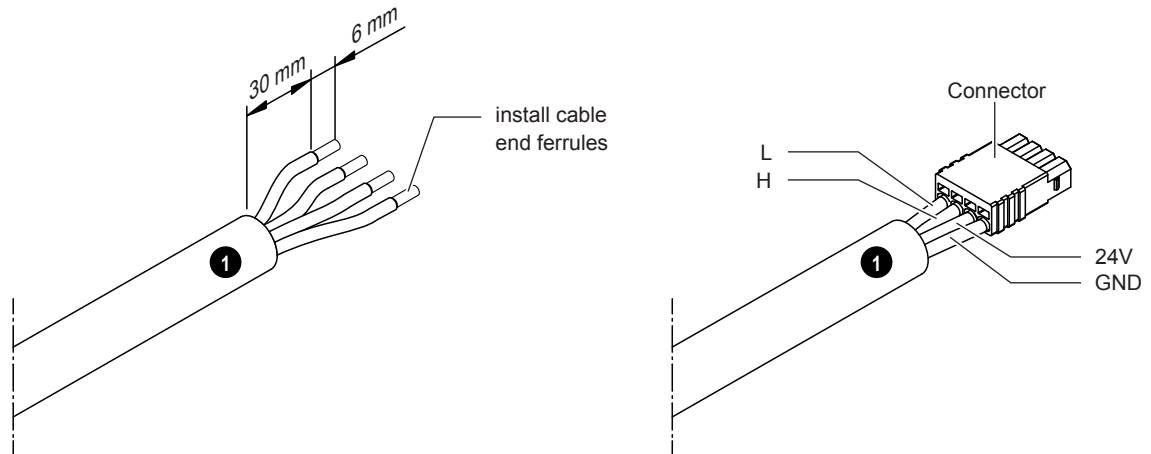

Fig. 25: Prepare CAN BUS cable for SPA Display connection
3. Cut the CAN BUS cable(s) to length. Prepare the cable end(s) as shown in Fig. 25 (SPA Display connection) or Fig. 26 (connection cable Condair Delta SPA Control Box to Condair Omega), then connect the prepared cable ends to the the CAN BUS connectors.